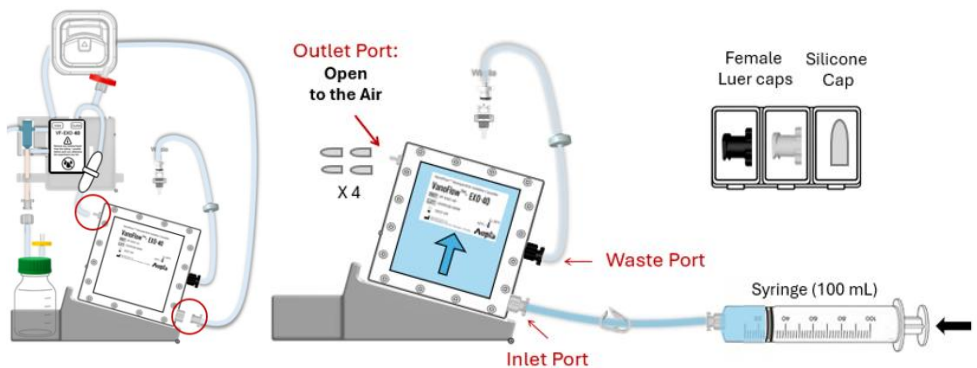

Figure 2 - Cassette storage for future use
- If planning to reuse the cassette, disconnect only the tubing indicated by **Red Circles** in Figure 2(left) and keep the other tubing connected.
- Using a **100mL syringe**, slowly inject **~70ml storage buffer** (0.05M HCl) into the cassette as shown in Figure 2(right). When the buffer reaches the Outlet Port, cap the **Outlet Ports** (x4) with silicone caps (x4).